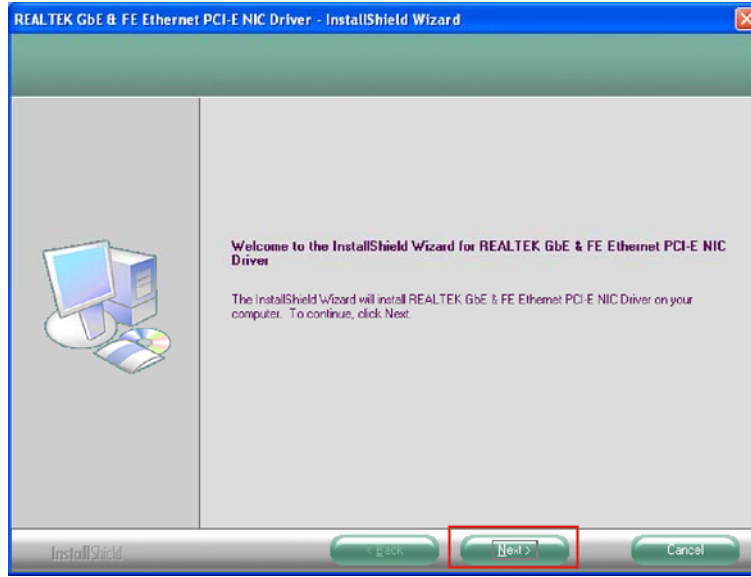

Figure 7-17: LAN Driver Welcome
Step 3: Double-click the **Setup** icon (**Figure 7-17**).
Step 4: The LAN driver welcome screen appears (**Figure 7-17**).